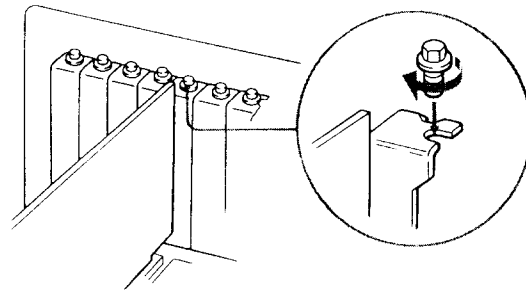

Figure 3-3. Securing the Card
- 3** Secure the card with the screw you removed in Step 1 (see Figure 3-3).